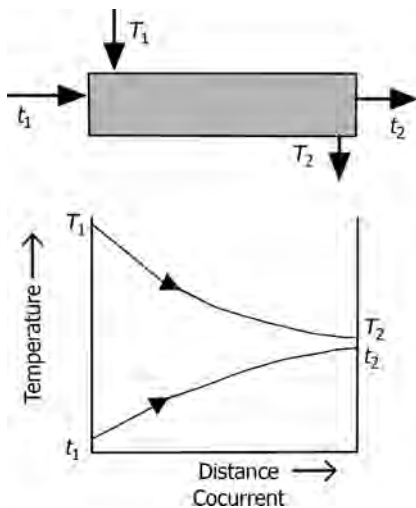

FIGURE 10.37 Temperature profiles for cocurrent flow.
- *Cocurrent or Parallel Flow*: The two fluids enter the heat exchanger from the same end with a large temperature difference (Figure 10.37). As the fluids transfer heat, hotter to cooler, the temperatures of the two fluids approach each other. It should be noted that